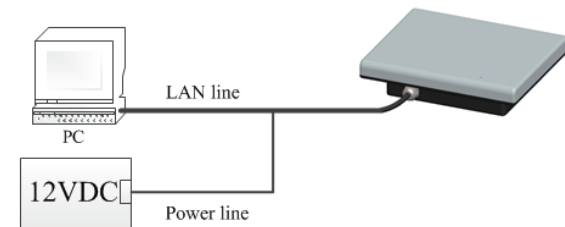

Fig.3-2
- ② Connect PC and SMWR21A-P radar sensor as shown in figure3-2: